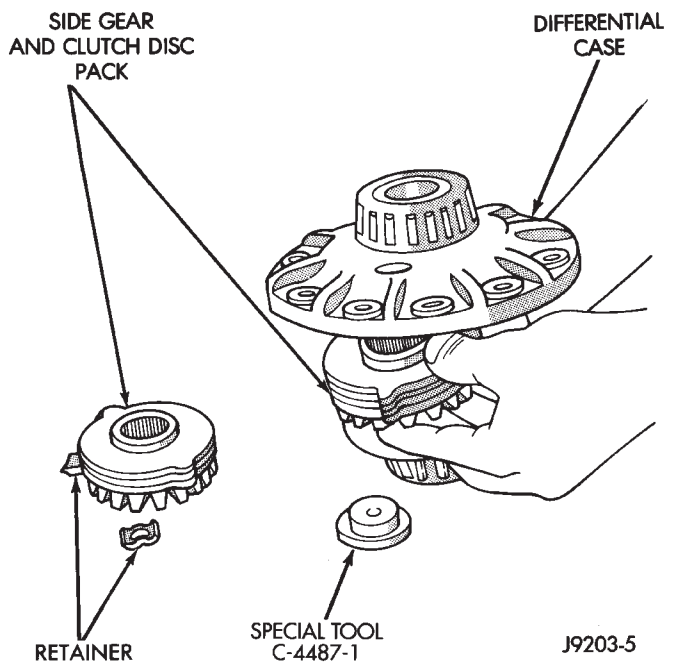

Fig. 12 Side Gear & Clutch Disc Removal
(12) Remove top side gear and clutch pack. Keep plates in correct order during removal (Fig. 12).
(13) Remove case from fixture. Remove remaining clutch pack.
(14) Remove clutch pack retaining clips. Mark each clutch pack for installation reference.